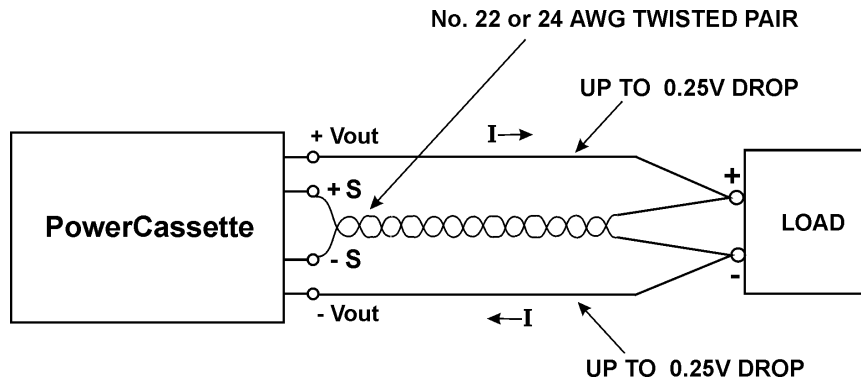

Figure 8. Remote Sensing Connection for Each V1, V2 or V3 Output
13.6 Remote Sensing. Remote sensing connections for V1, V2 and V3 are made to the designated pins on the large Positronics connector. Remote sensing is not available on the low current V4 and V5 outputs or on the Standby +5V, 250 mA output. Remote sensing is used to regulate the output voltage at the point of load by compensating for the voltage drop in the wires to the load. Each +Sense lead must be connected to the + side of the load and each -Sense lead to the -side of the load. The sense leads should be color-coded, twisted pairs of AWG no. 22 or 24 copper wire. See Figure 8.